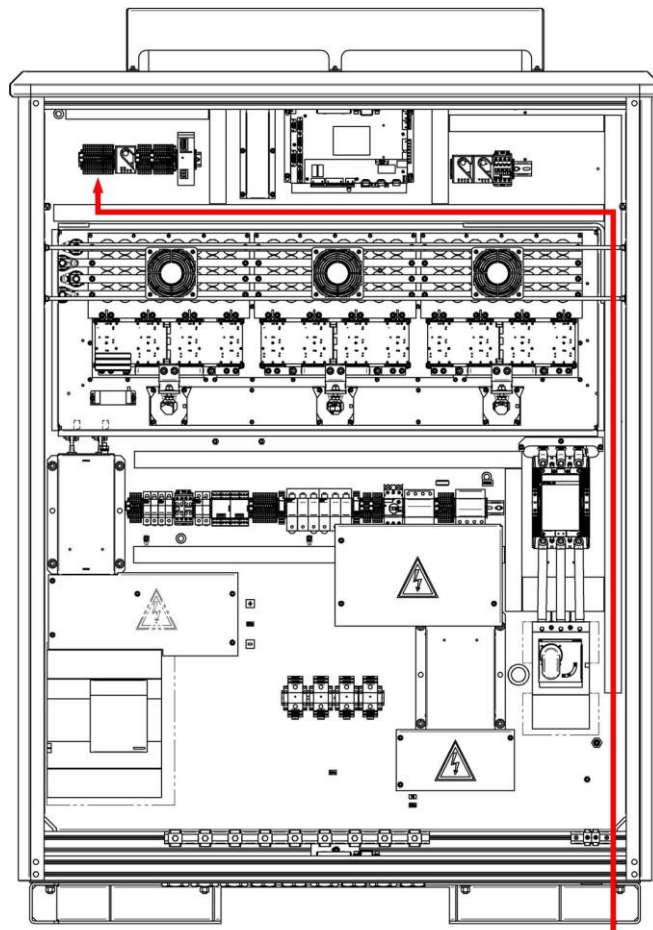

Figure 19: Cable routing terminal strip (-X3)
1. **Locate** the terminal strip (-X3) (Figure 19).